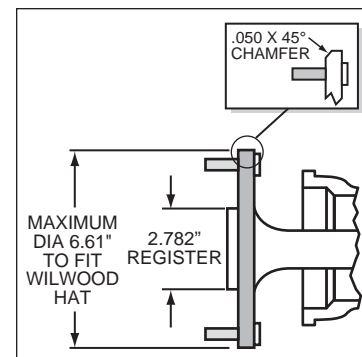

Figure 3. Axle Flange Maximum Dimension
- Maximum axle flange diameter must be no larger than 6.61" w/.050" x 45° chamfer, Figure 3.